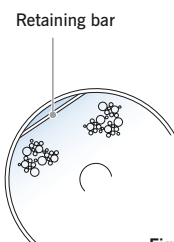

Figure 2
On completion of installation, check the foam insert is fitted inside the stainless steel coalescer unit (Fig 2) and the coalescer unit is inserted securely into the base socket.
3. Re-insert the foam insert into the stainless steel coalescer unit (Fig 2) and re-insert the coalescer unit into the Puraceptor.